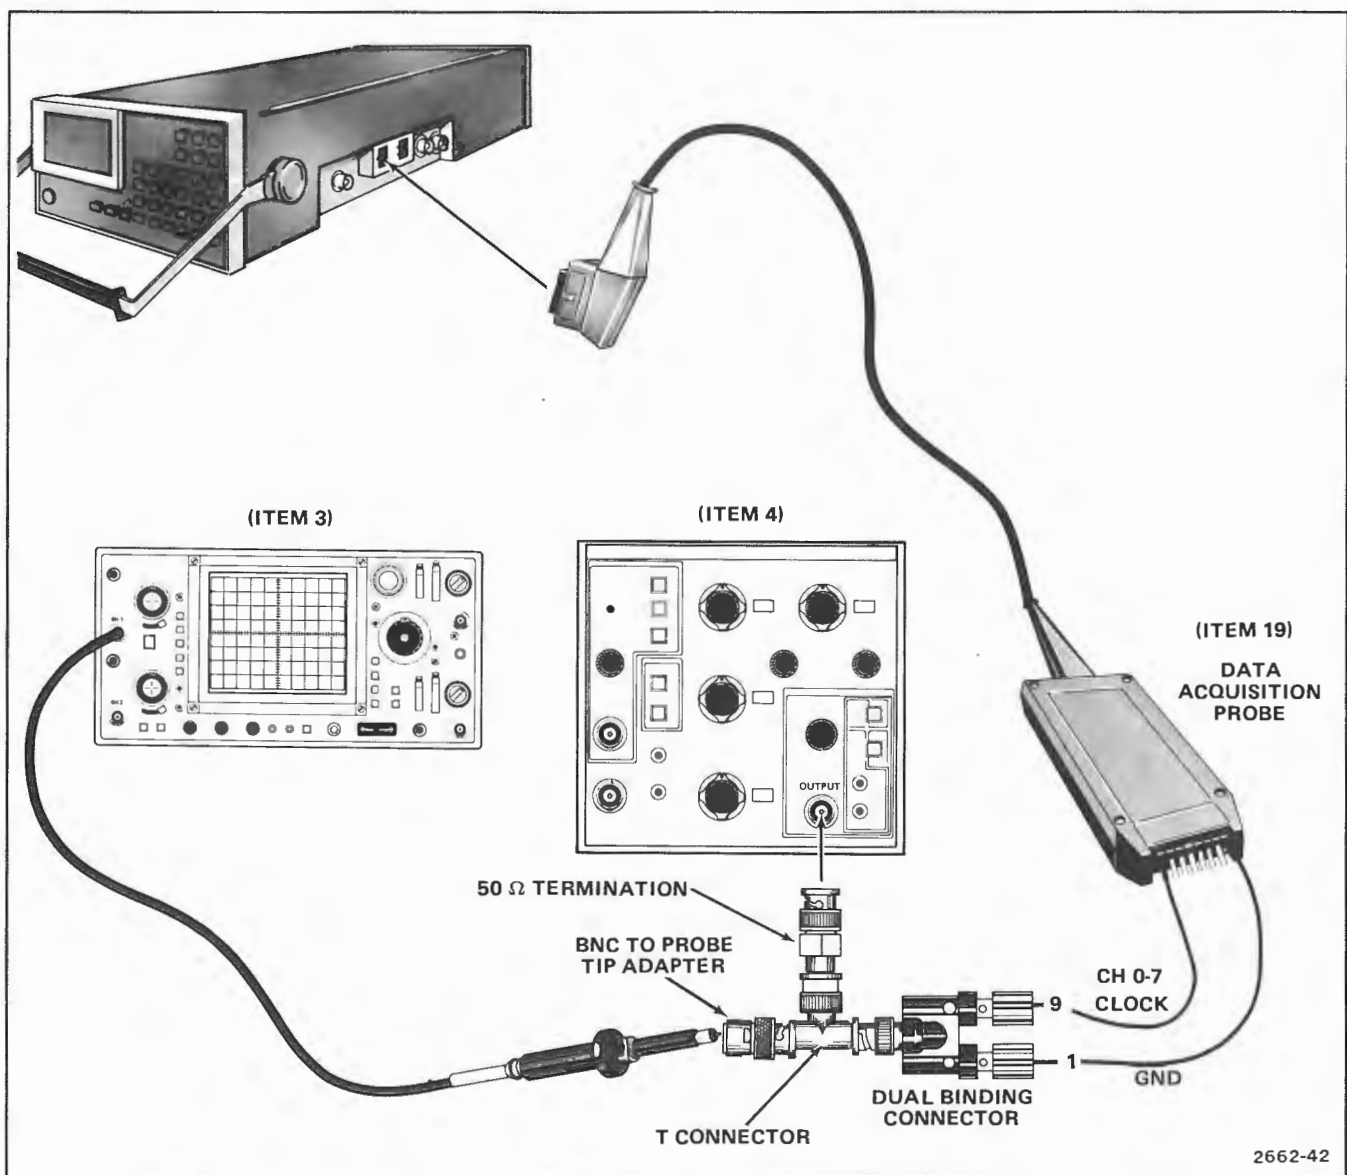

Figure 4-3. Test setup for checking minimum external clock period.
g. Connect test setup as shown in Figure 4-3.
- e. Connect test setup as shown in Figure 4-3.
- g. Connect test setup as shown in Figure 4-3.